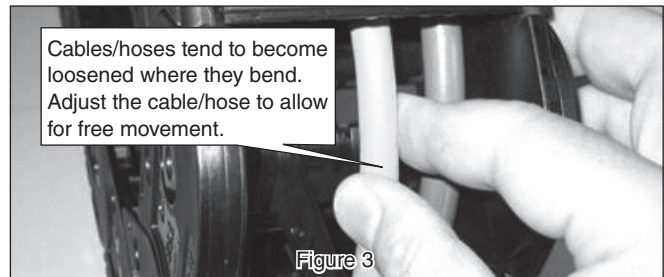
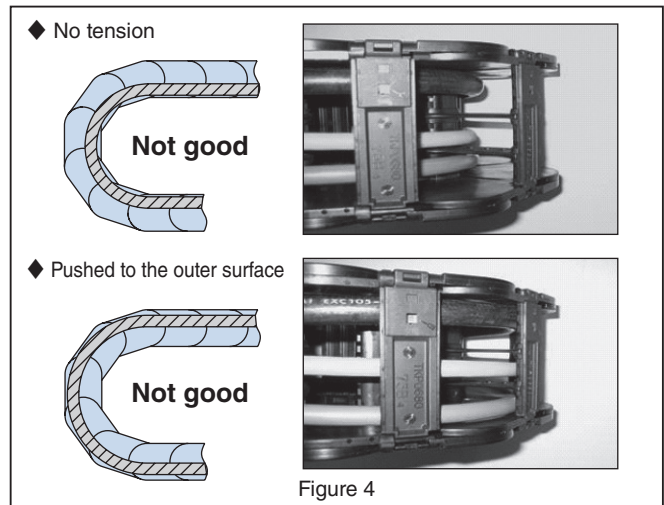

Figure 3
Figure 4
4. To prevent tension where cables/hoses bend from being pressed against the outer surface of the cable carrier, arrange the cables/hoses loosely (with enough space to "float" above the inner circumference surface inside the cable carrier) to allow freedom of movement. (See Figure 3 and Figure 4.)